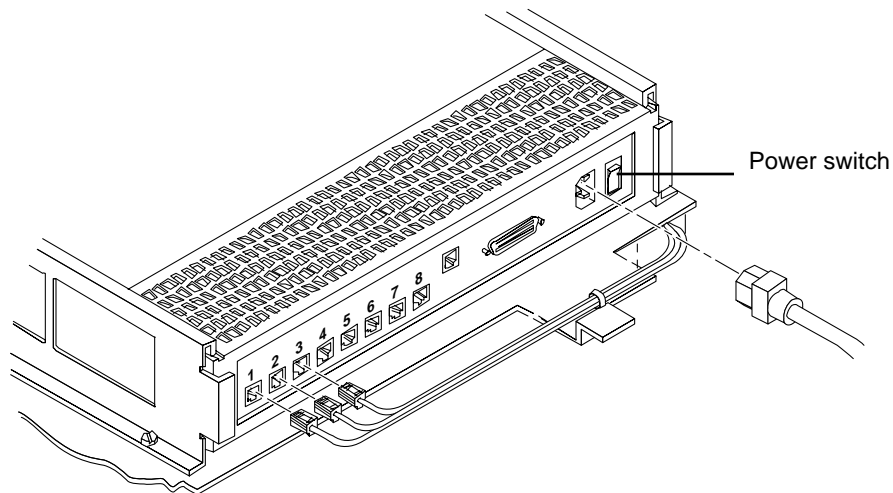

Figure 9-4 Removing/Replacing Terminal Concentrator Cabling
2. Power the terminal concentrator off by using the power switch located on the back panel, see Figure 9-4.
3. Remove power and serial cables from the terminal concentrator as shown in Figure 9-4.